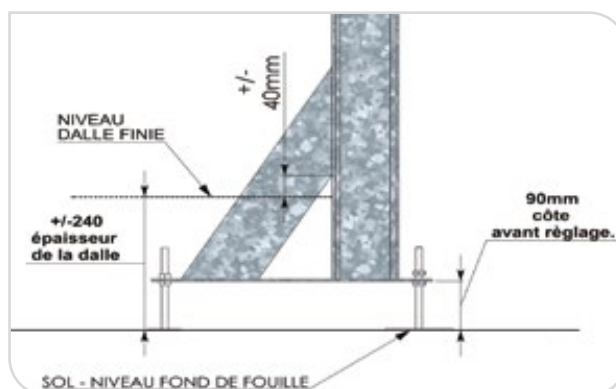
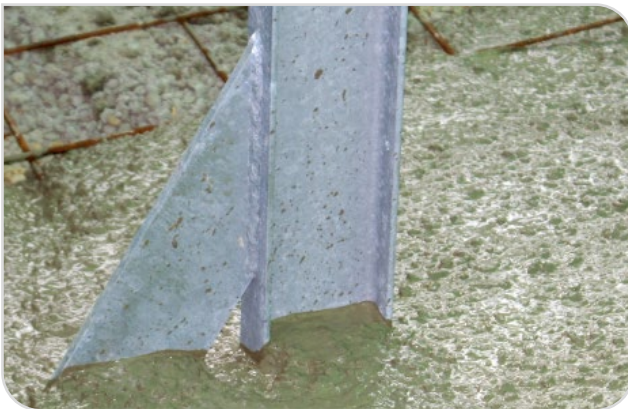

Figure 7 – Detail of the jack
Figure 11 – Detail of the metallic posts
- ❗ See *Figure 7* and *Figure 11* to determine the correct height of the concrete slab with respect to the posts.